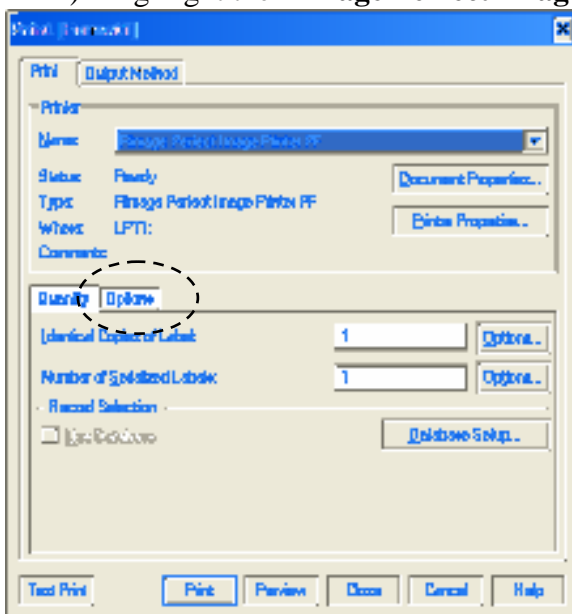
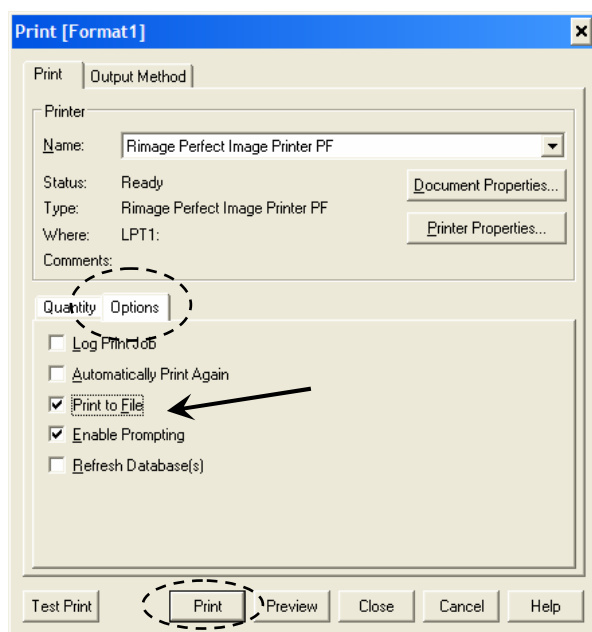

fig.2 Select the Prism PLUS printer
fig. 3 Check the Print to file box under **Options** tab.
2. Follow the instructions by opening the top CD/DVD drive tray, and Clicking *Yes* (**fig. 2**). The picker arm will hover a disc over the drive tray, observe the discs position and make the appropriate adjustments to the drive tower (**fig. 3**).
(fig. 2)
(fig. 3)
9. Follow the onscreen instructions then Click **Yes** button (fig. 2). The picker arm will then hover a disc over the open printer tray. Observe disc's position and make the appropriate adjustments to the printer (fig. 3).
- 4) Highlight the **Rimage Perfect Image Printer PF** as shown on the fig.2
5) Select the **Options** tab, check the **Print to File** box, and press the **Print** button as shown on a fig.3